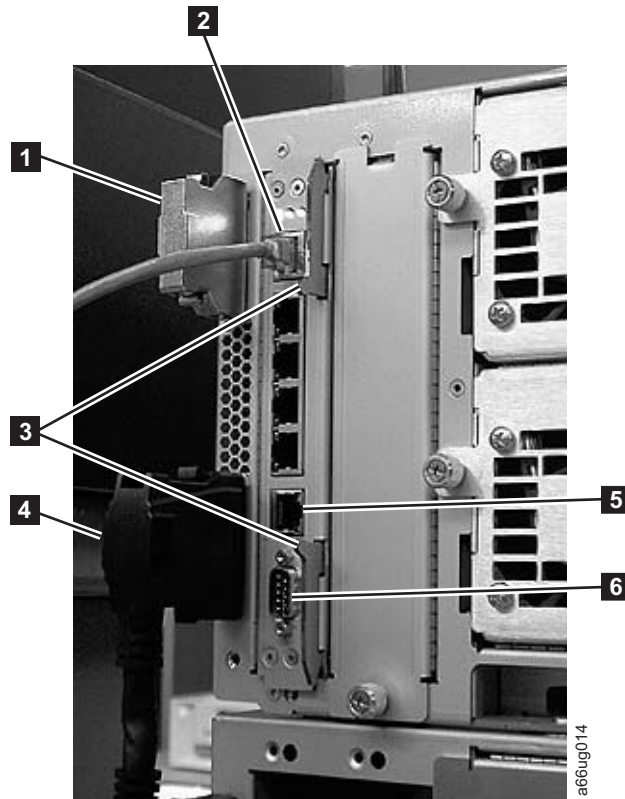

Figure 11-11. Library Control Blade (LCB)
3. Grasp the pair of latches near the top and bottom of the LCB (**3** in Figure 11-11 on page 11-14) by pushing them in until they click into place.
- Reconnect the Ethernet cable (**2** in Figure 11-11) by pinching the tab and pushing the connector into the LCB.
Note: Six slots reside below the Ethernet cable. The four topmost slots are reserved for future use. The two bottommost slots are designated as Ethernet (**5** in Figure 11-11) and serial (**6** in Figure 11-11) ports, and are reserved for use by IBM Service Personnel.